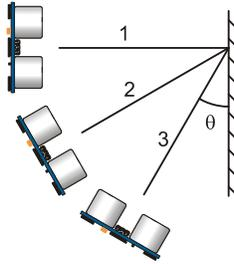

Figure 2-5
- √ Try standing one meter away from the wall, and point the Ping))) sensor at it, and record the measurement. Next, try pointing the Ping))) sensor at the wall at different angles, as shown in Figure 2-5. Do the values change? At what angle does the Ping))) sensor cease to detect the wall?